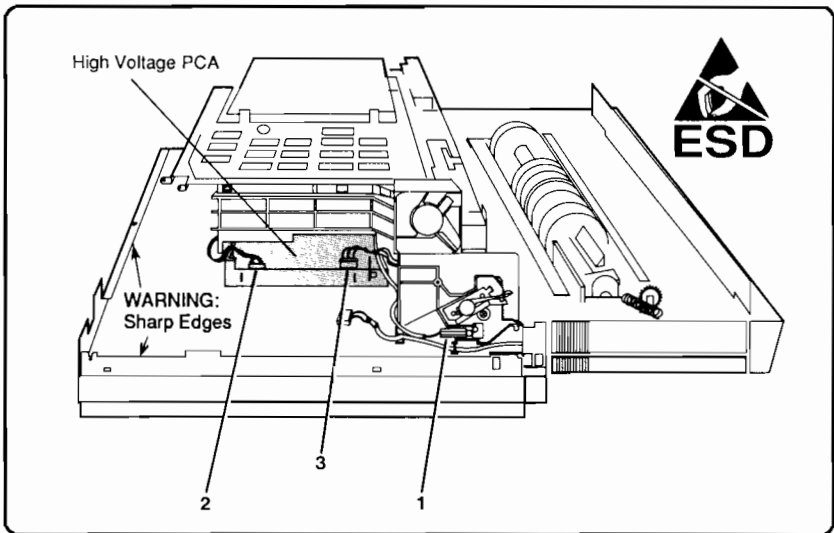

Figure 6-39. High Voltage PCA Removal
6. Using a flat-blade screwdriver, unplug the High Voltage Cable Connector (see Figure 6-39, callout 1). **Do NOT pull on the cable.**
8. Unplug connectors J601 (see Figure 6-39, callout 2) and J602 (see callout 3) on the High Voltage PCA.